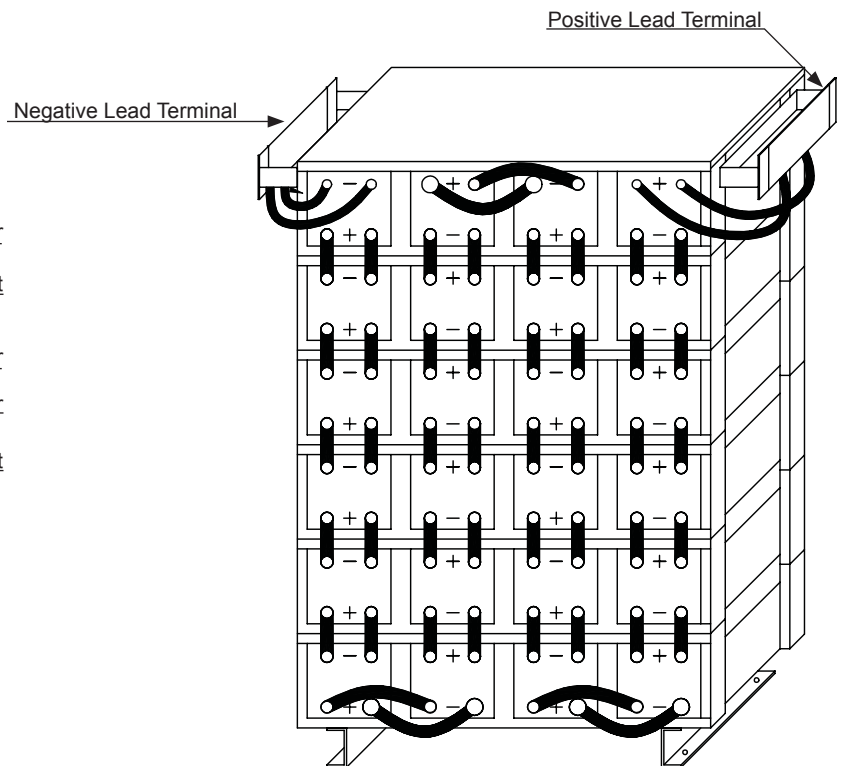

Fig. 8-3, Sample Battery Installation (SMU-500)
7. Starting with the bottom module (to prevent tipping), slide the battery cells into the assembled frame. Orient the positive and negative poles of the batteries as shown in Fig 8-3.
11. Connect the positive poles of the cell at one end of the string to the positive terminal. Connect the negative poles of the cell on the other end of the string to the negative terminal (see Fig. 8-3).